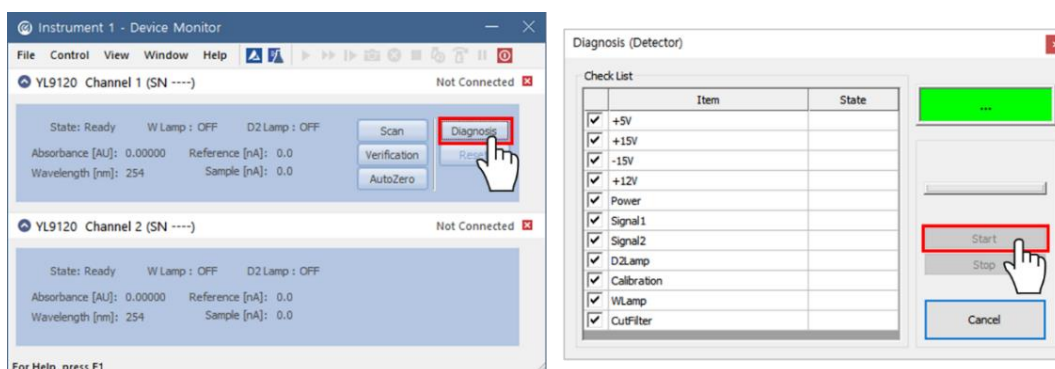

Figure 19. How to run the diagnosis of YL9120 UVD
7. When the grating has been adjusted, run the “YL-Clarity” and go to “Device Monitor” and click on the [Diagnosis]. Then start to check all factors including calibration of wavelength (refer to Figure 19)